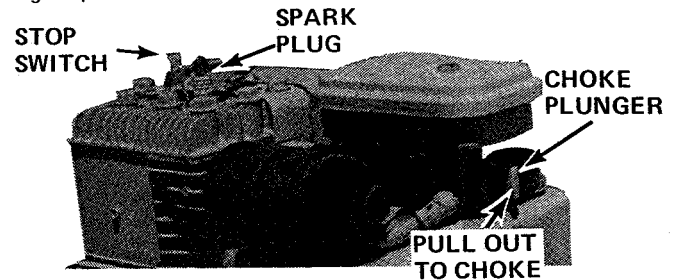

Figure 11.
- See Figure 11. Move stop switch away from spark plug.
- See Figure 11. Pull choke plunger out to full CHOKE position. If engine warm, use half choke.
- See Figure 11. If engine still fails to start, check fuel supply and spark plug connections. Be sure engine stop switch is away from spark plug.
- See Figure 11. Push stop switch against end of spark plug.
4. See Figure 11. Choke plunger is not pulled out to full CHOKE position or, if engine appears flooded, pushed in, to clear excess fuel. To clear a flooded engine, push choke plunger completely in and pull starter rope several times.